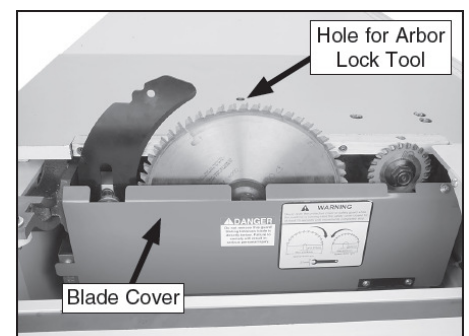

Fig. 4
3. Scoring blade: It is rotates opposite the main saw blade, the blade cores the workpiece before the actual cutting operation is performed preventing tear-out in laminate materials. The scoring is adjustable forward and backward, upper and down. (Fig. 4)